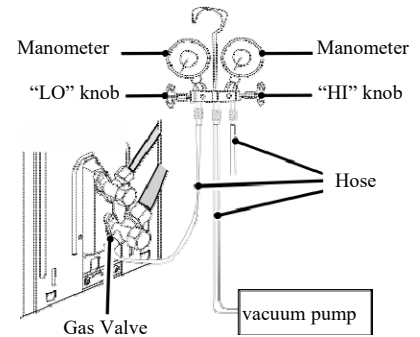

Fig.5
3. As shown in the following figure (Fig.5), expel the gas inside the indoor unit and refrigerant pipe out by the vacuum pump.